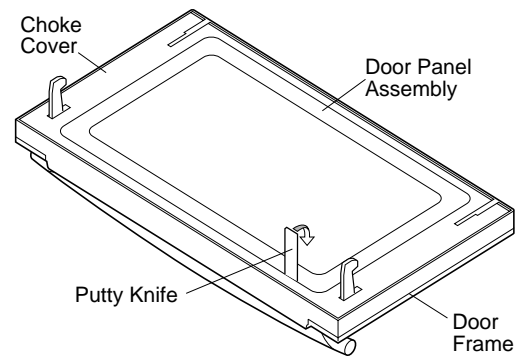

Figure C-5. Door Disassembly
8. Insert a putty knife (thickness of about 0.5 mm) into the gap between the choke cover and the door panel assembly as shown in Figure C-5.